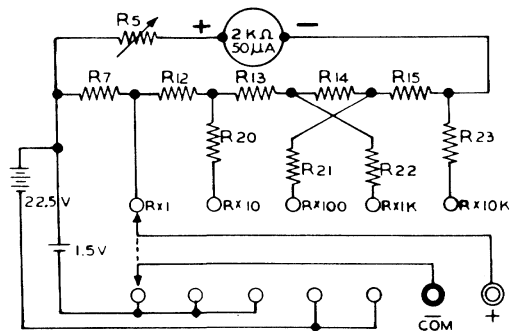

Figure 5-4. Simplified Circuit-DC Ohms
5.5.1 A simplified circuit for the 160 ohmmeter range is given in Figure 5-4. Note for ohms measurements the equivalent meter resistance is approximately 2000 ohms. The ohmmeter, as shown, is a "series" type employing a modified Ayrton shunt for multiple ranges. A 1.5 volt battery supplies the power for measurements on the R x 1, R x 10, and R x 100 ranges.